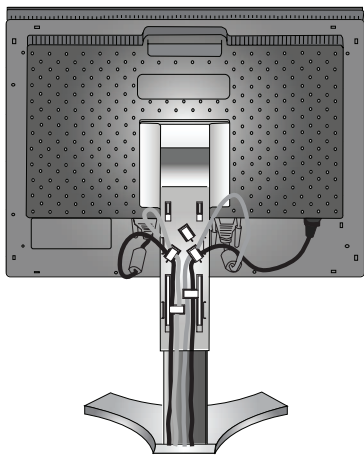
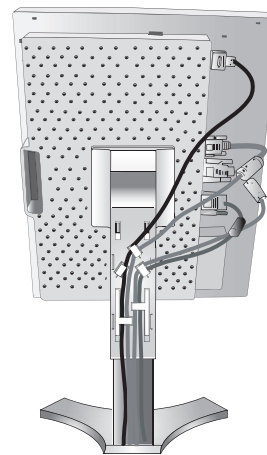

Figure C.3
Figure C.4
5. To keep the cables neatly organized, place them into the cable management system that is built into the stand. Place the D-Sub cable (not included) and the power cable into the specific hooks as indicated (**Figure C.2**). Place the DVI cable and the 15-pin mini D-Sub to DVI-A cable into the hooks as indicated (**Figure C.3**). When using the monitor in Portrait mode, place the DVI cable and the 15-pin mini D-Sub to DVI-A cable into the hooks as indicated (**Figure C.4**).
6. Make sure all cables are resting flat against the stand (**Figure C.3**). Please check Tilt, Rise and Lower monitor screen and screen rotation when you manage cables.